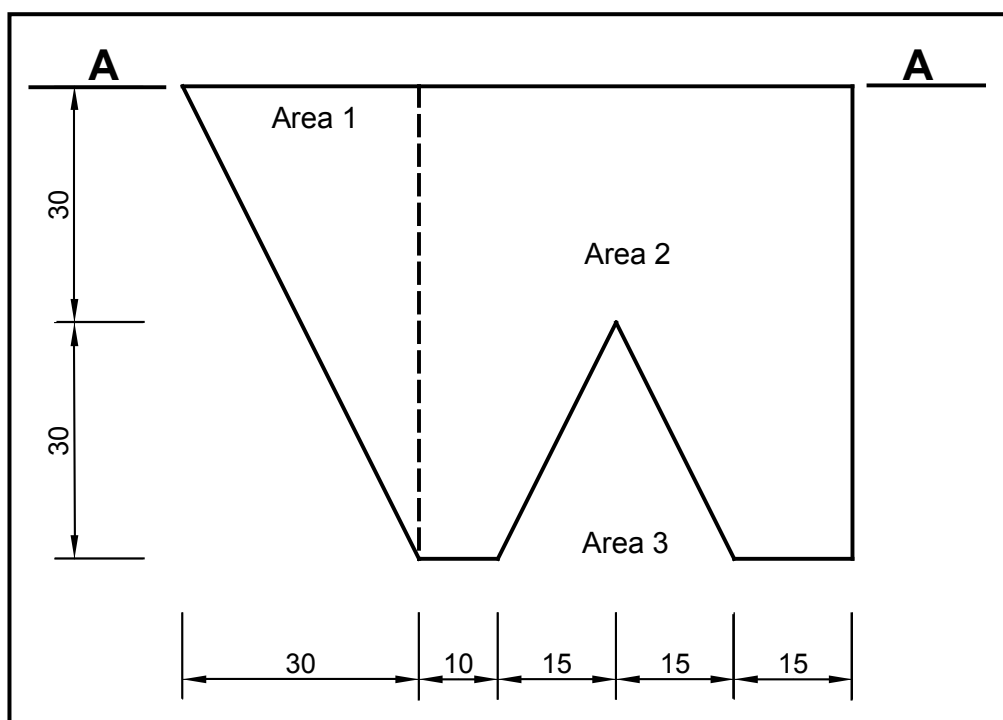

FIGURE 5.1
- 5.1 FIGURE 5.1 below shows a shaped lamina. All dimensions are in millimetres. The area of the right-angled triangle (Area 1) is 900 mm^2 , the rectangle (Area 2) is $3\,300 \text{ mm}^2$ and the isosceles triangle (Area 3) is 450 mm^2 .